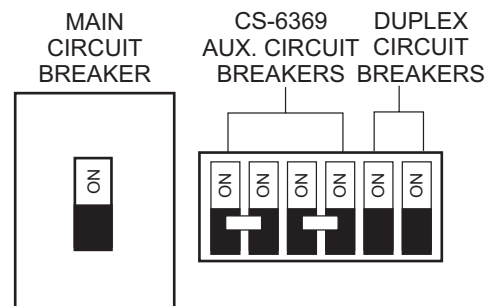

Figure 53. Main, Aux. and GFCI Circuit Breakers (ON)
10. Place the **main**, **GFCI**, and **aux.** circuit breakers in the **ON** position (Figure 53).